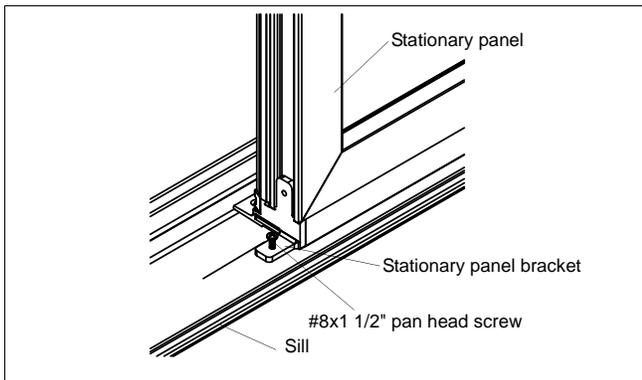

Figure 4 Exterior view
4. Install one #8x1 1/2" (two on 3W OXO) pan head screws provided through sill stationary panel brackets into the subfloor. (If door is installed on concrete subfloor, install concrete screw anchor.) See figure 4.